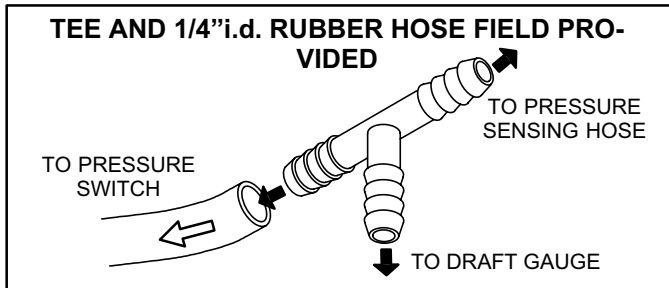

FIGURE 25
- 2 - Disconnect hose from front of pressure switch and install tee as shown in figure 25. Repeat sequence for hose connected to back of switch.